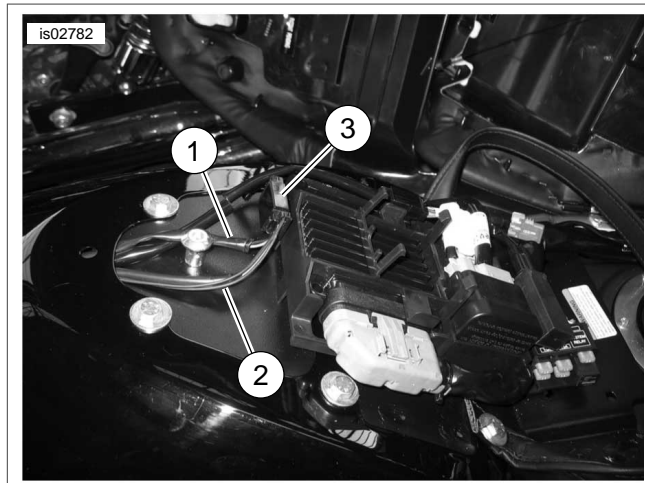

Figure 1. Release Tail Lamp Housing
1. **For 2006 and Earlier Models:** See Figure 1. Insert a screwdriver into middle of hole of license plate light cover. Push forward to release tail lamp housing retaining clip.